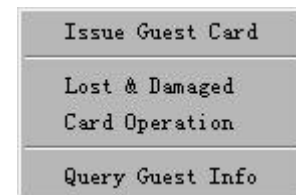

Figure 3-20
- d) Select **Issue guest card**, issue card screen appears as Figure 3-20.